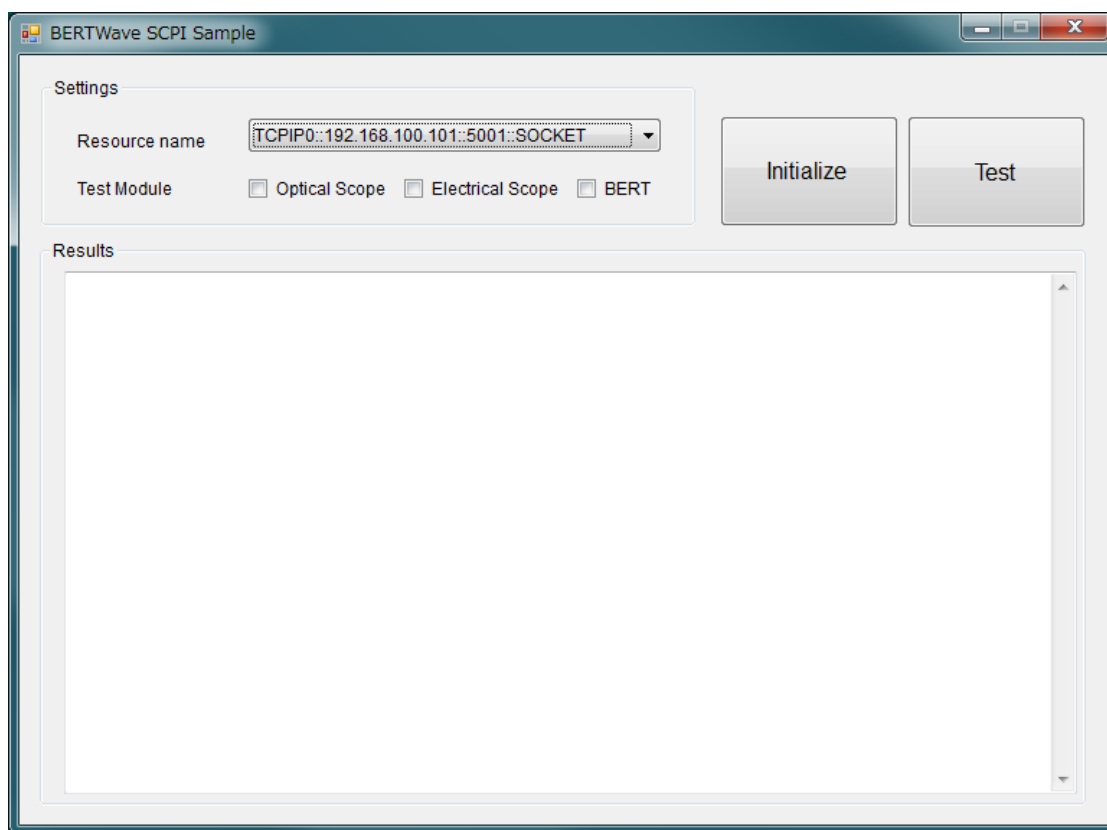

Fig. 10 Sample Program GUI
- c. The screen shown in Fig. 10 is displayed when debugging starts.